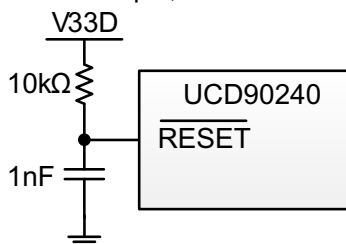

Figure 33. Example of $\overline{\text{RESET}}$ with RC Circuit
- If an application does not use the $\overline{\text{RESET}}$ signal, the $\overline{\text{RESET}}$ pin must be tied to V33D, either by direct connection to the nearest V33D pin (Pin F10), or by a RC circuit as shown in Figure 33. The RC circuit in Figure 33 can be also used to delay reset at power up.